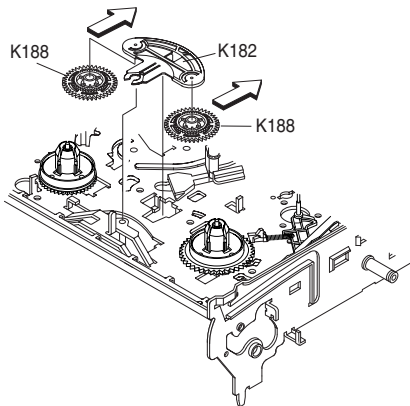

Fig. 14
- Slide the idler wheel (K182, Fig. 14) towards the rear of the drive mechanism then remove it.